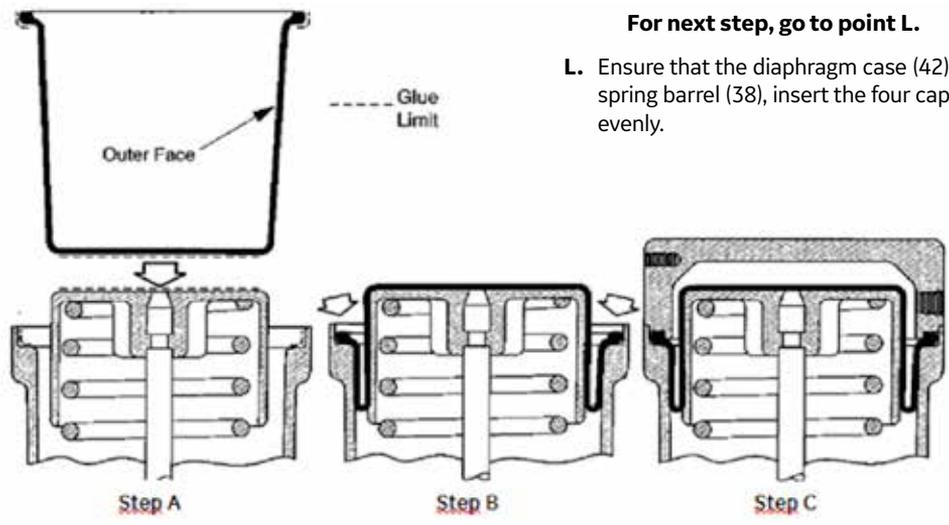

Figure 7 - Method 2
- K-2. Clamp the bead of the diaphragm (40) between lips of diaphragm case (42) and spring barrel (Figure 7- Method 2, Step C).